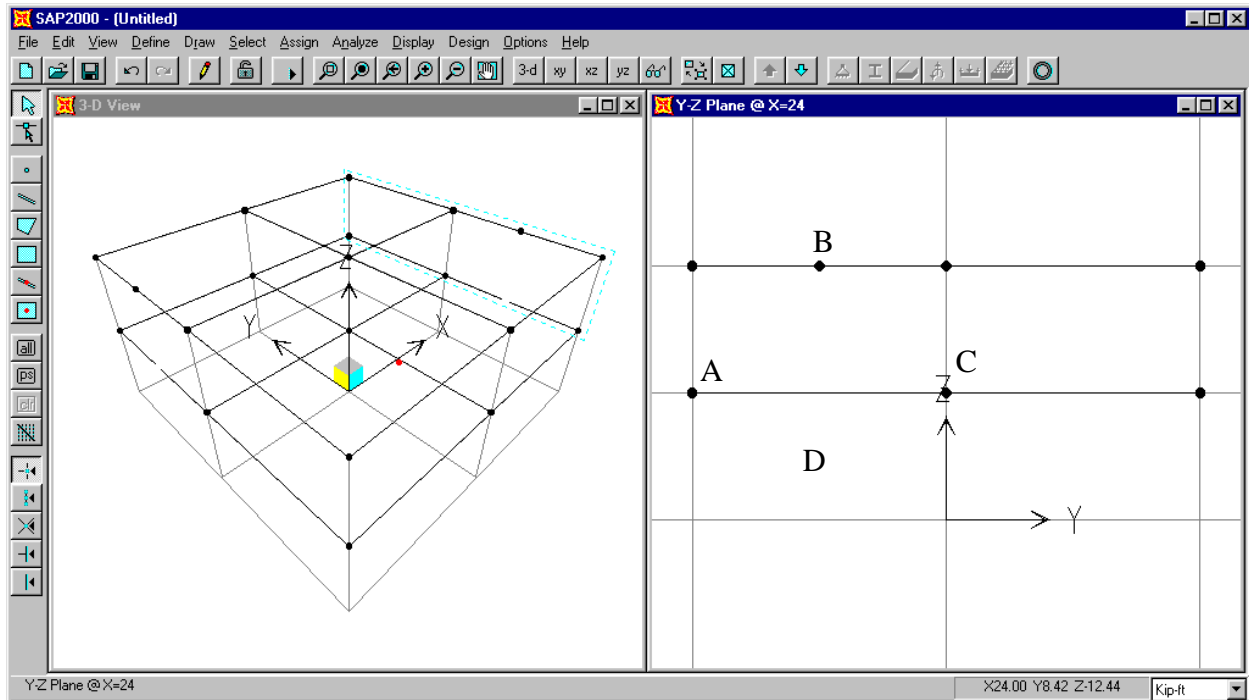

Figure C-13: Y-Z Elevation
30. Click the **yz 2D View** button  on the main toolbar to change the view to an elevation in the YZ plane. Note that the title of the window reads YZ Plane @ X=24. This same title also occurs on the left-hand side of the status bar at the bottom of the SAP2000 window. The model appears as shown in Figure C-13.
32. Make sure that the **Snap to Joints and Grid Points** button  on the side tool bar is depressed. Place the mouse pointer on the joint labeled “A” in Figure C-13 and click on the left mouse button. Note that when the mouse pointer is near the joint, it snaps to the joint,
33. Place the mouse pointer near the joint labeled “B” in Figure C-13 and note that in this case the Snap To option text box just says “Point” because the joint does not occur at a grid intersection. Click on the left mouse button to draw the chevron brace element.
35. Click on the joint labeled “C” and then the joint labeled “B” in Figure C-13, and then press the Enter key on the keyboard to draw the second chevron brace member.
36. Click the **Quick Draw Frame Element** button  on the side toolbar. Then click in the area labeled “D” in Figure C-13 to enter the X-braces.